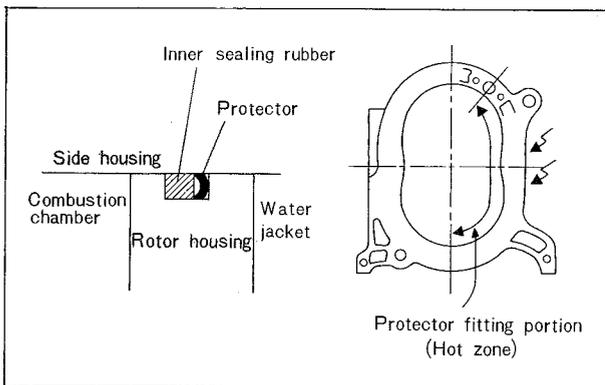

Fig. 1-63 Installing sealing rubber protector
2) When engine overhauling, install the protector to behind of the inner sealing rubber, as shown in Fig. 1-63, to improve the durability of the sealing rubber.